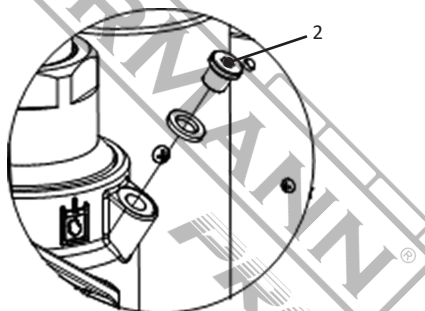

Fig. 20
2. Remove the screw (2) at the oil fill hole with a no. 5 hexagon wrench. The oil capacity is 250 ml. (Fig. 20)